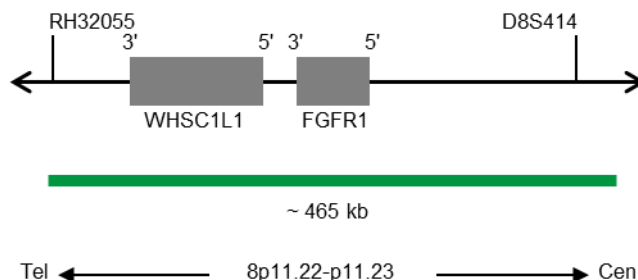

Fig. 1: SPEC FGFR1 probe map (not to scale)
- ZyGreen (excitation 503 nm/emission 528 nm) labeled polynucleotides (~10.0 ng/μl), which target sequences mapping in 8p11.22-p11.23* (chr8:38,063,906-38,527,745) harboring the FGFR1 gene region (see Fig. 1).